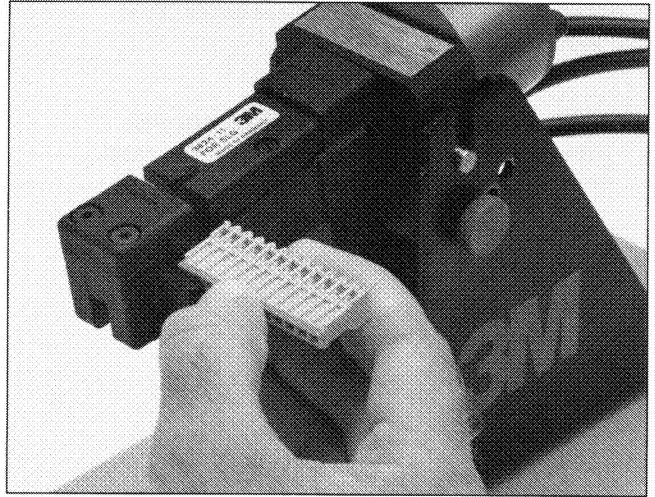

Figure 2
2. Place connector on assembly head slide as shown (Figure 2).